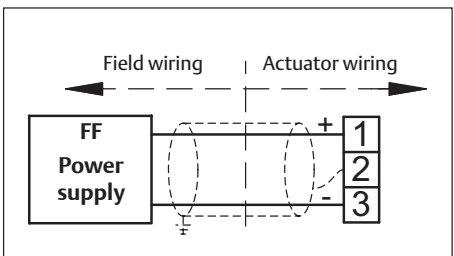

Fig. 4.3 Terminal connections
3. Connect the FOUNDATION Fieldbus™ signal to the applicable terminals (see figure 4.3).
- For 7/8" or M12 connector pinout, see figure 4.3 and 4.4.